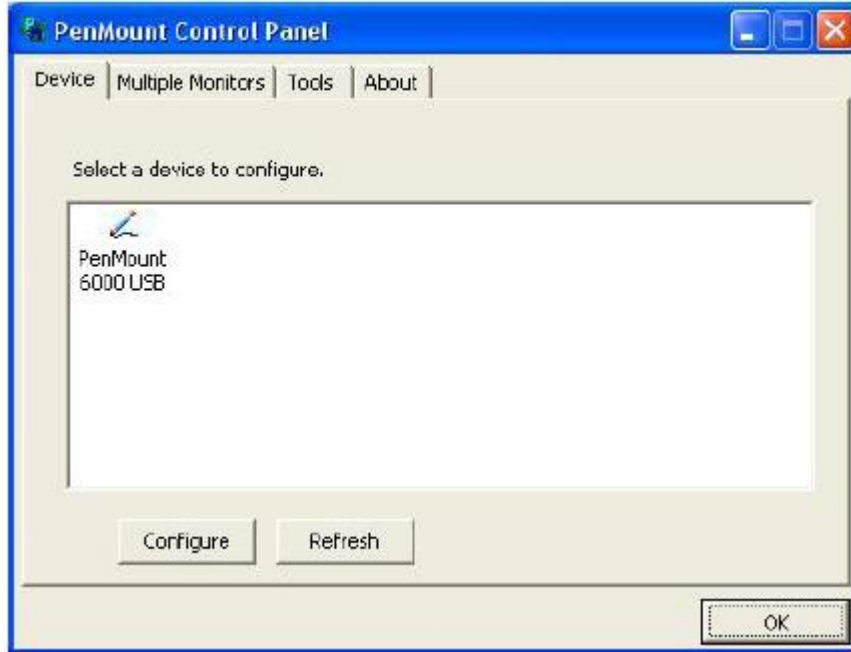

Figure 5-8: Configuration Screen
Step 6: The configuration screen in **Figure 5-8** appears.
Step 7: Double click the PenMount 6000 icon as shown in **Figure 5-8**.